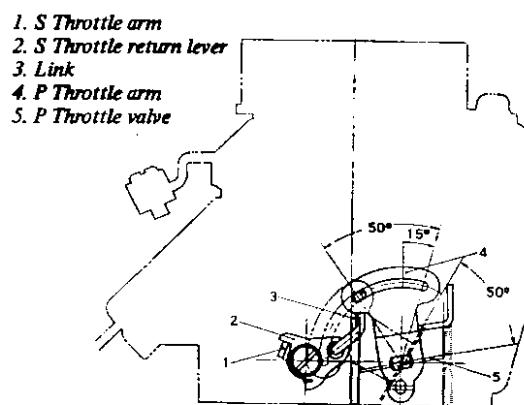

Fig.B.10 Adjusting the throttle valve interlock opening - D3034C carburettor
With the primary throttle valve of the type D3034C carburettor opened at an angle of 50°, the connecting link (3) in Fig.B.10 should be at the extreme left of the slot in the throttle arm (4). With the linkage positioned as shown, measure the clearance between primary throttle valve and the wall of the chamber as described for the DAK340 carburettor. Adjustment can be made, if necessary, by bending the connecting link until the correct clearance is obtained.